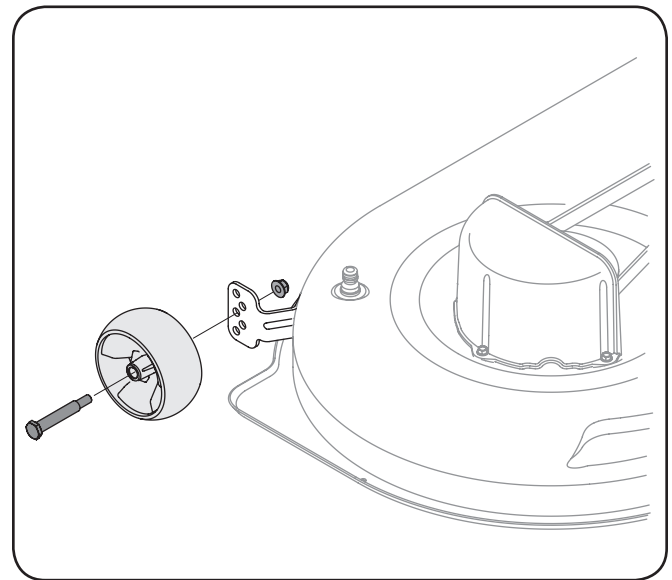

Figure 3-4
- b. Remove the front and rear gauge wheels by removing the lock nuts and shoulder screws which secure them to the deck. See Fig. 3-4